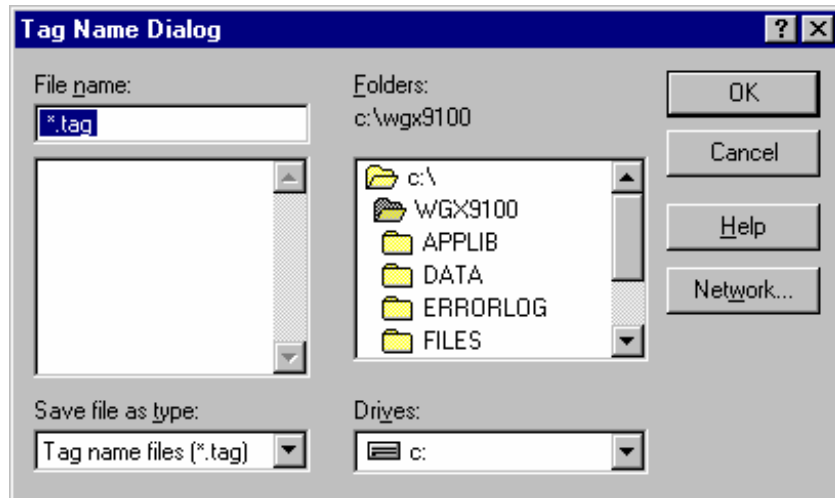

Figure 10-2: Tag Name Dialog Box (Write User Names)
1. On the Select File menu, click Write User Names. A Tag Name Dialog box appears (Figure 10-2).
1. On the File menu, click Read User Names. A Tag Name Dialog box appears (Figure 10-2).